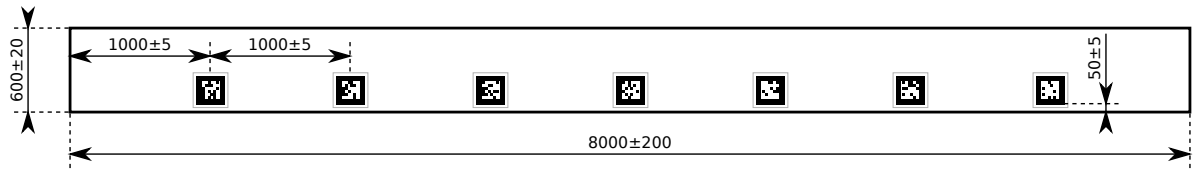

Figure 4: Seven 250mm wide markers are spaced evenly along each 8m arena wall. The markers are placed 50mm above the floor. All dimensions are in millimetres.
- 3.3.5 Each wall of the arena features seven $250mm$ libkoki markers. Figure 4 shows the positioning of these markers, whilst figure 5 shows the numbering of these markers.